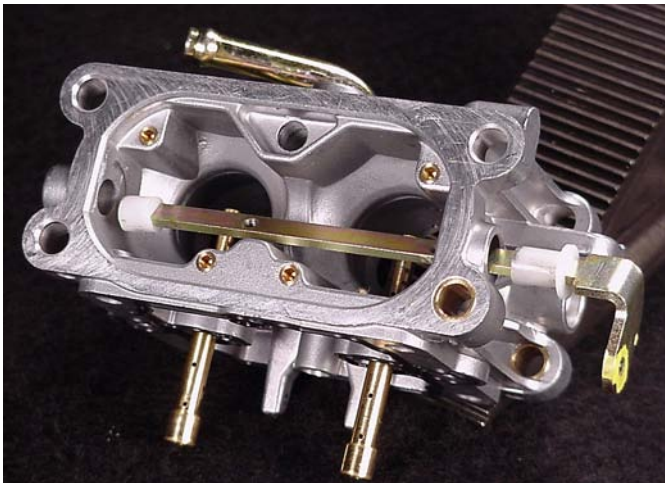

Fig. 126
11. Remove choke shaft and nylon bushings, Fig. 126.